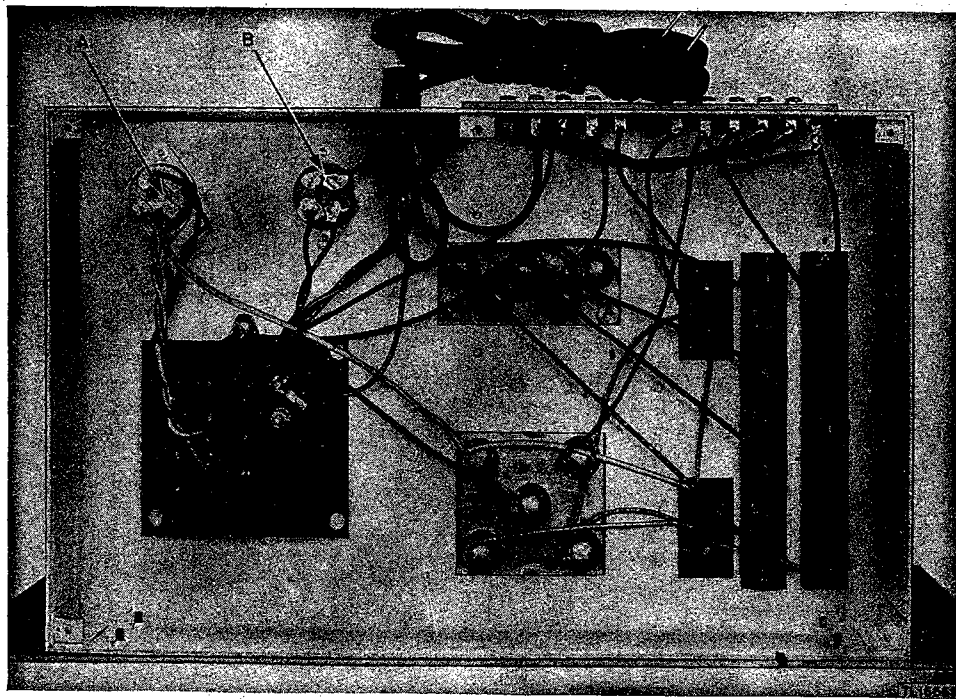

Figure 22. Power Supply Unit RA-94-A, bottom view of chassis, showing masking.
55. Power Supply Units RA-74(*), RA-84(*), and RA-94-A (figs. 22 and 23)
b. DISASSEMBLY. (1) Remove the two screws
(1) Contacts of tube sockets (A and B, fig. 22).